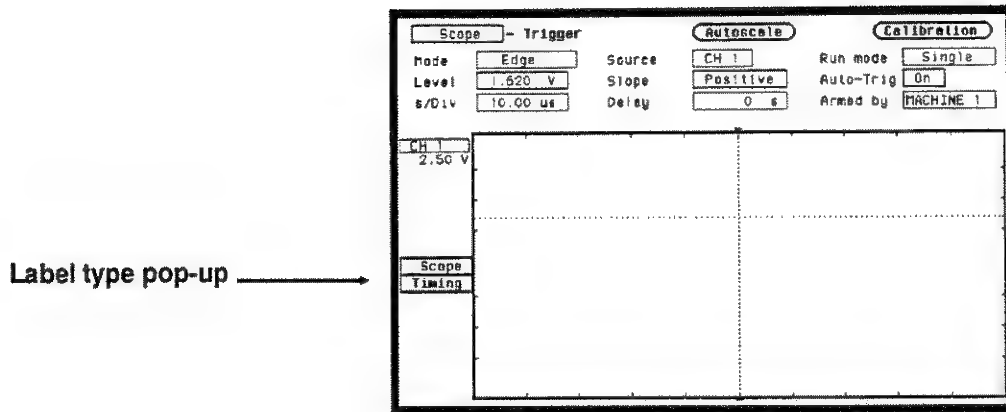

Figure 26-6. Label Type Pop-up
3. Since the timing analyzer machine is arming the oscilloscope, another pop-up will appear as shown in figure 26-6 that gives you a choice of Scope or Timing. Select Timing.